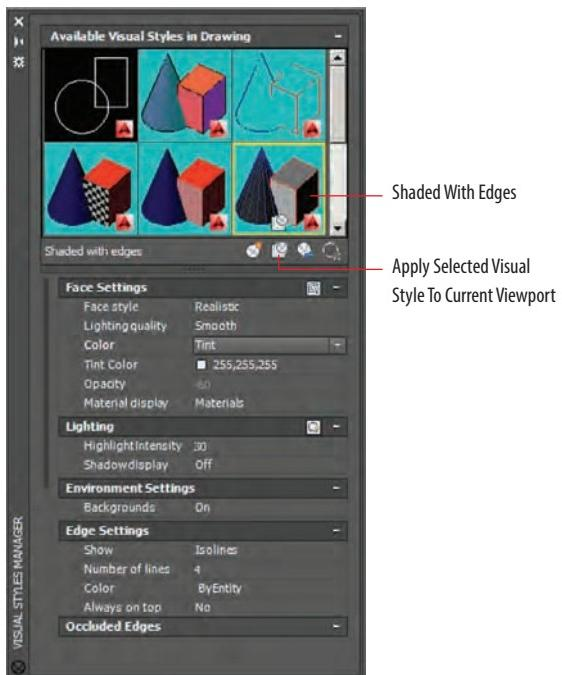

FIGURE 16.4 Visual Styles Manager
4. Select the ribbon's View tab and select the Visual Styles icon in the Palettes panel to alter visual style settings. Scroll down the list of Available Visual Styles In Drawing and select Shaded With Edges. Change Color to Tint in the Face Settings group (see Figure 16.4).
5. Select the Apply Selected Visual Style To Current Viewport button, as shown in Figure 16.4. Close the Visual Styles Manager. Figure 16.5 shows the result in the drawing canvas.